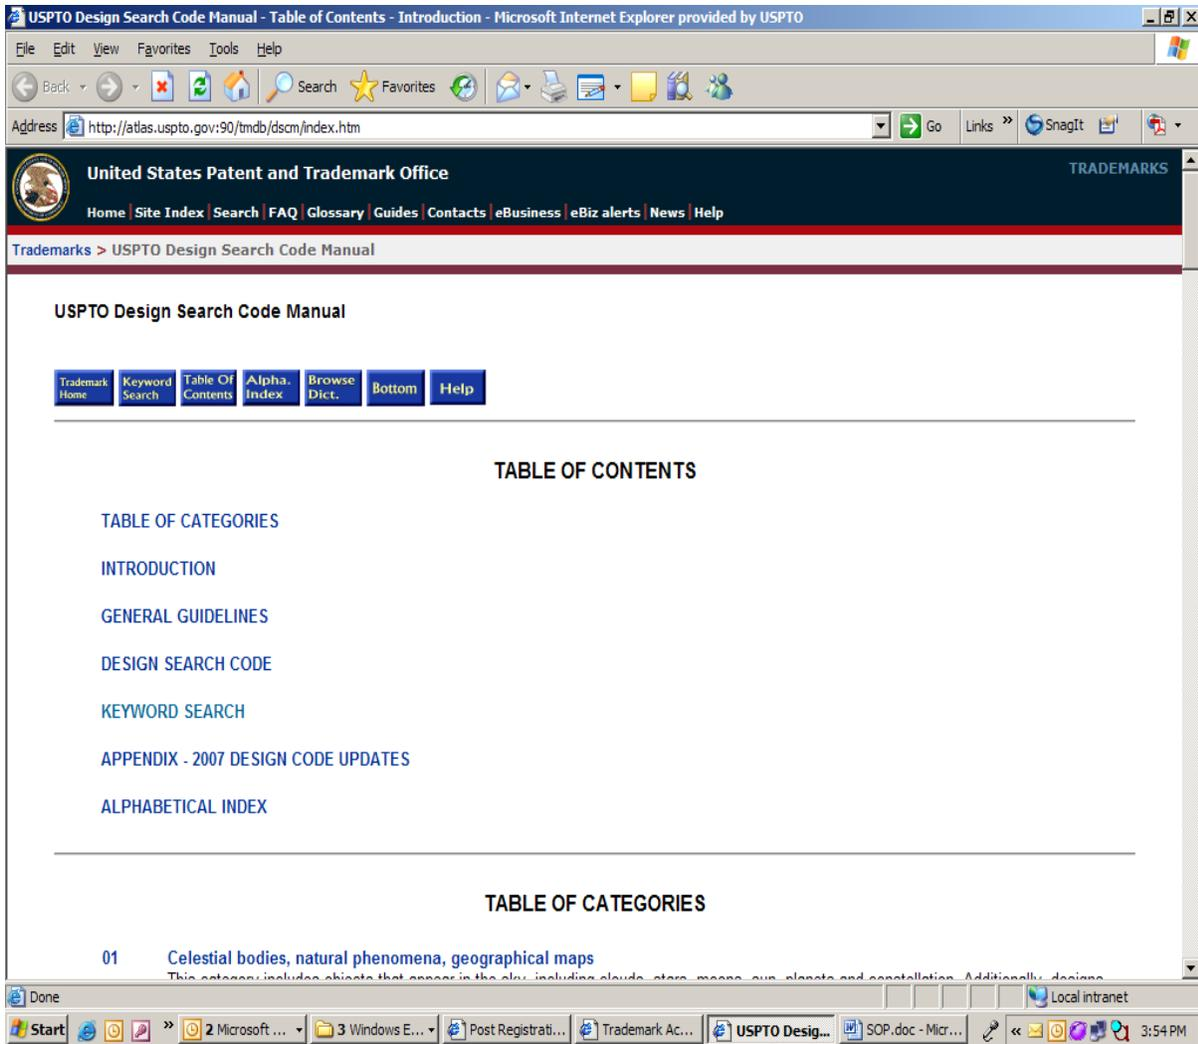

Figure 1-2: The Design Search Code Manual Portal
Step 1: Double-click on the DSC Manual icon  on the desktop, which opens the DSC Manual (Figure 1.2).